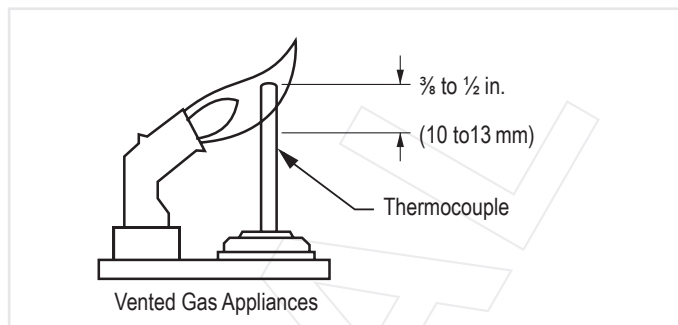

Figure 16: Proper Flame Impingement on Thermocouple
The pilot flow adjustment is preset to maximum at the factory. The pilot flame should envelope 3/8" to 1/2" of the thermocouple – vented only (see figure 16).
1. Connect a pressure manometer to the valve outlet pressure tap. Pressure tap is opened by turning the screw counterclockwise ↻. Pressure regulator or throttle are located under the cover and can be reached by removing the plug (see figures 16 and 18).